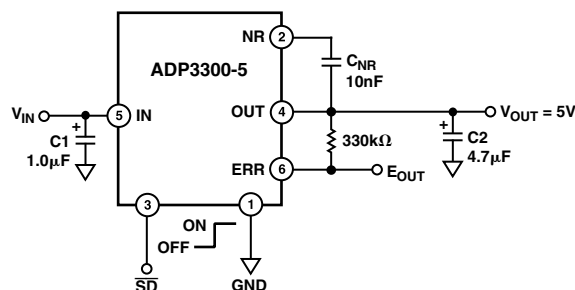

Figure 3. Noise Reduction Circuit
A noise reduction capacitor ( $C_{\text{NR}}$ ) can be used to further reduce the noise by 6 dB–10 dB (Figure 3). Low leakage capacitors in the 10 nF–100 nF range provide the best performance. For load current less than 200  $\mu\text{A}$ , a 4.7  $\mu\text{F}$  output capacitor provides the lowest noise and the best overall performance. Since the noise reduction pin (NR) is internally connected to a high impedance node, any connection to this node should be carefully done to avoid noise pickup from external sources. The pad connected to this pin should be as small as possible. Long PC board traces are not recommended.